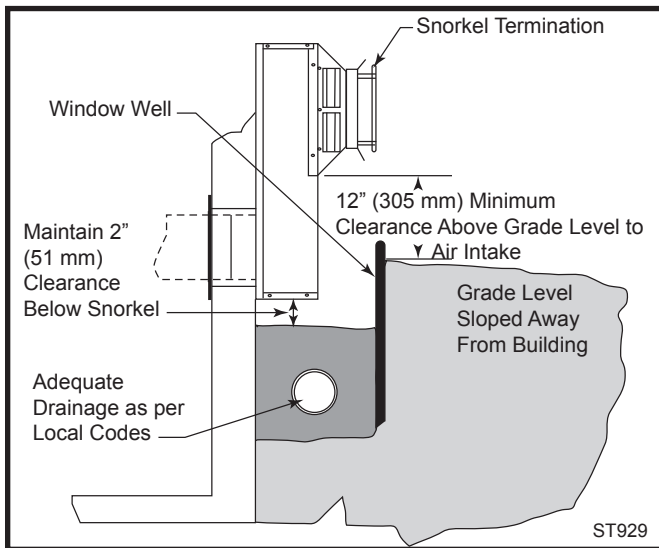

Fig. 40 Below grade installation.
1. Determine the appliance location. Refer to the appliance manufacturer's installation instructions for clearance to combustible requirements, termination options, number of elbows, maximum length, etc. Then position the appliance and plan vent routing accordingly. Consider locating the appliance in a place where there will be no interference with wall studs, electrical wiring, conduit, plumbing pipe or other obstructions. The termination should be located at least 12" (305 mm) (Fig. 40) above grade, remain above the snow line in geographical areas that accumulate snow and be away
7. If a wall thimble is used, push the pipe (which is connected to the appliance) carefully through the wall thimble until the DIRECT-TEMP pipe becomes fully engaged with the horizontal termination. If no thimble is used, place the Trim Plate (TP) on the DIRECT-TEMP pipe. Carefully push the DIRECT-TEMP pipe through the wall until fully engaged with the horizontal termination. Secure the trim plate to the wall.
NOTE: If a vertical rise is necessary on the exterior side of the building, a 14" (356 mm) and 36" (914 mm) Snorkel Termination (ST) is available. Follow the installation procedures for horizontal terminations. If the snorkel termination is to be located below grade, a window well is recommended with adequate and proper drainage as per local codes. Leave 2" (51 mm) clearance below snorkel to prevent water from entering the snorkel termination. Do not enclose the snorkel within a wall or other type of enclosure and **do not back fill**. Ensure that grade level slopes away from the building. (Fig. 40)